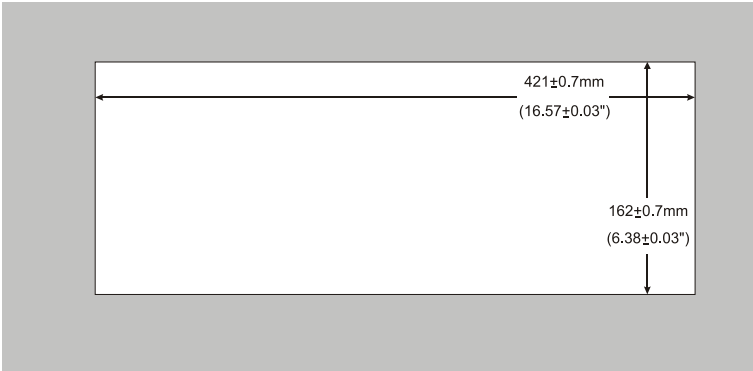

Figure 3: Cut Out Dimensions
1. Cut an opening in the desktop—making the cut out on a wooden surface using a sabre saw or a keyhole saw—at the location where you want to insert the **VP-747T**. Figure 3 illustrates the cut out template (not to scale) defining the surface that you have to cut out to install your **VP-747T**.